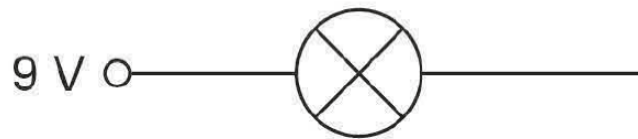

Fig. 4.1
- 4 (a) (i) Complete the circuit shown in Fig. 4.1 by adding **two** single pole single throw (SPST) switches in **series** so that the lamp will be lit only if **both** switches are closed.